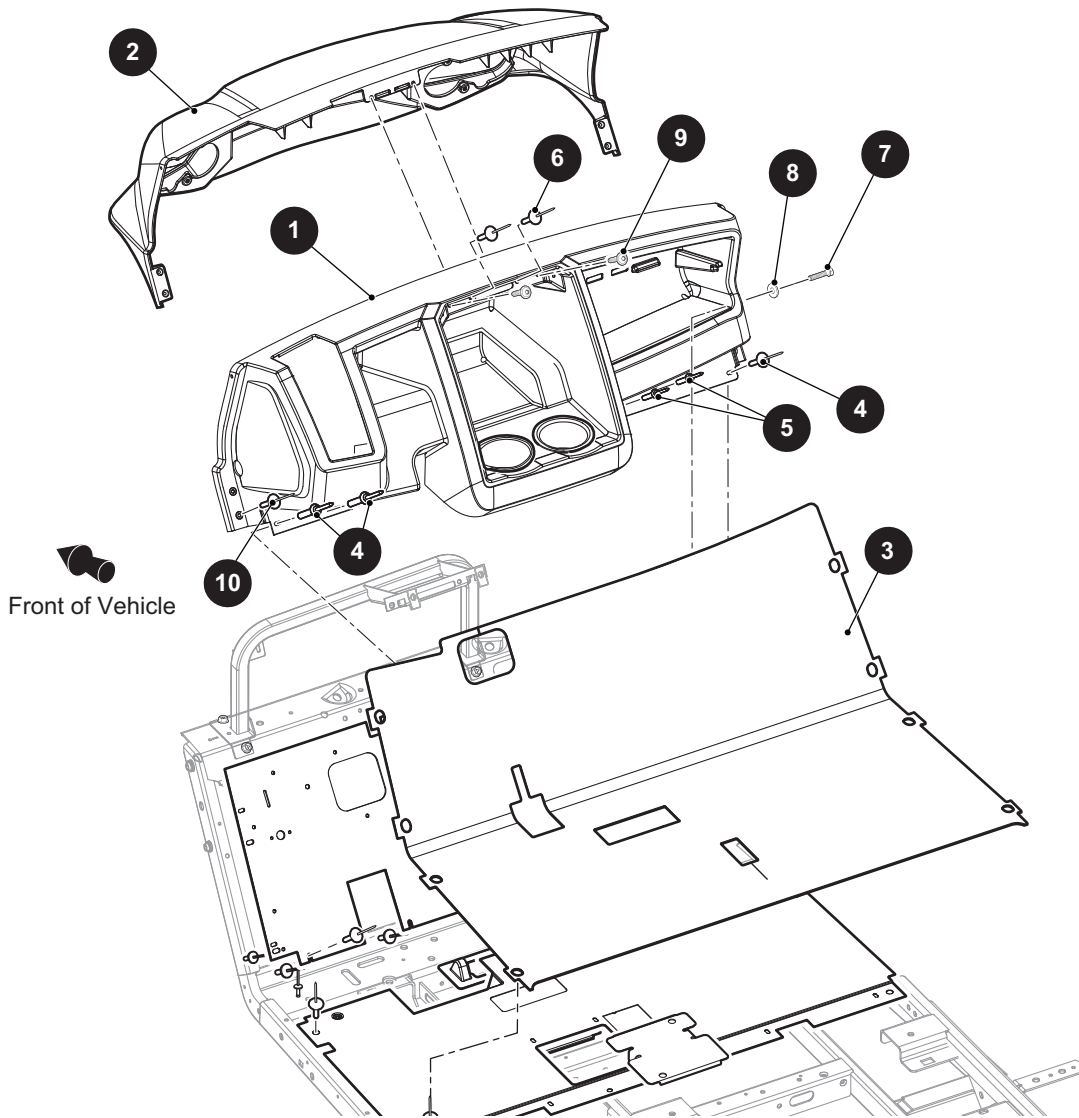

Figure 4 Front Body Components
Pull up the front edge of the floor mat (3) to expose the rivets (4) that secure the instrument panel (1) to the vehicle frame(Figure 4). Drill out the three rivets (4) that secure the instrument panel to the frame. Drill out the two rivets (6) that secure the instrument panel to the cowl (2).